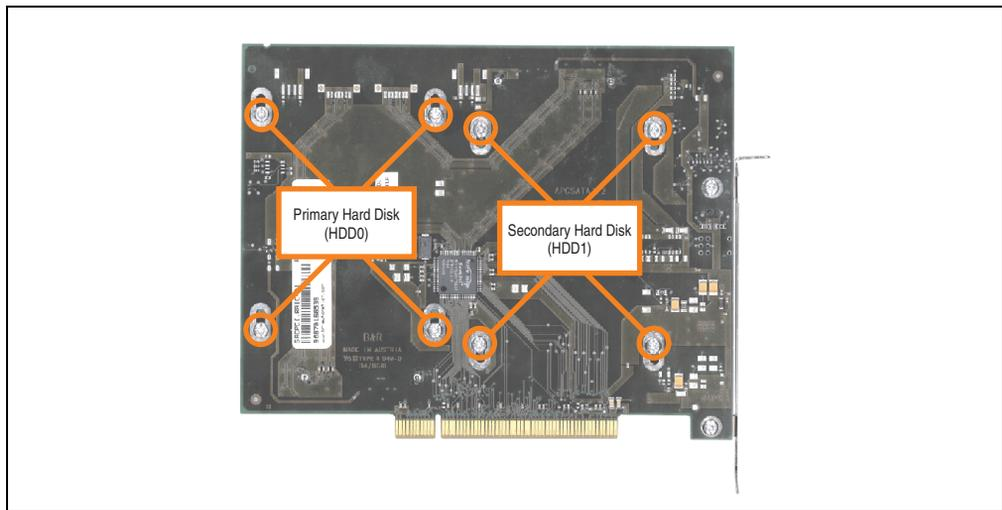

Figure 448: Screw assignment on the back side of the SATA RAID controller
- Loosen the 4 appropriate mounting screws (M3x5) - see Figure 448 "Screw assignment on the back side of the SATA RAID controller", on page 767.